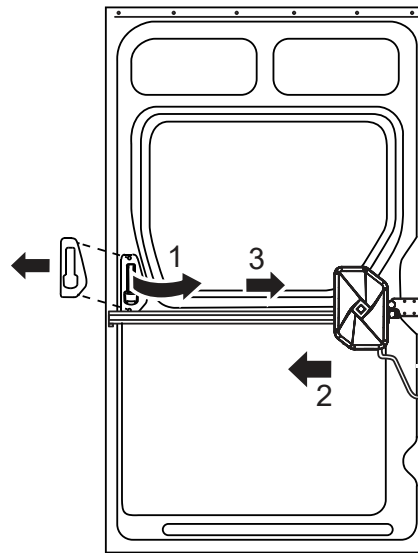

Fig. 1
1. Turn and hold the door handle (Fig. 1)
2. Push the drive diagonally outwards to the left (Fig. 1)
3. Open the door with the door handle to the right, (Fig. 1)